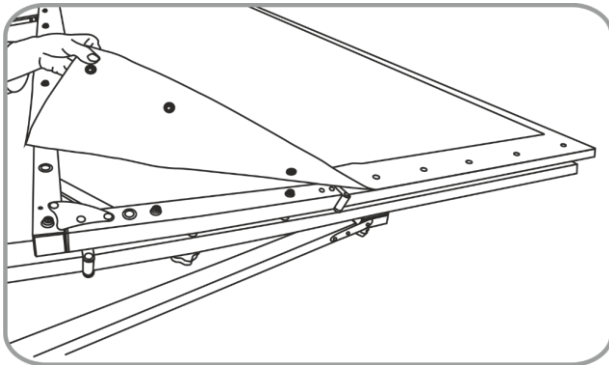
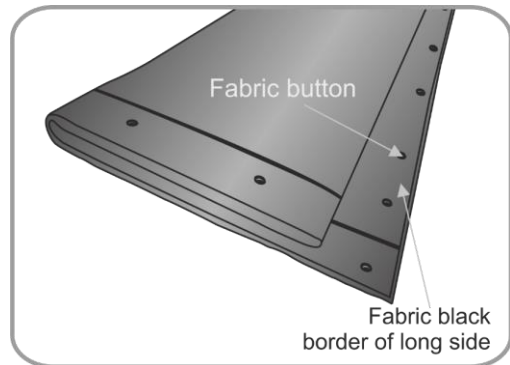

Fig. 13
Fig. 14
02) Take the fabric off the frame, by releasing the buttons (Fig. 13). Clean the fabric, if necessary. Double up the fabric along the short sides (Fig. 14) and then double it up again (Fig. 15-16). Leave the black border uncovered, to prevent scratches. Do not perform this step unassisted. 2 technicians are required.